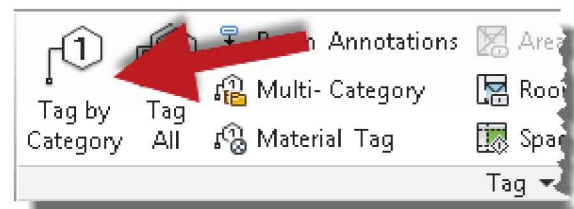

Figure 12-1.4 Annotate tab, Tag panel
10. Select **Annotate** → **Tag** → **Tag by Category** button on the *Ribbon* (Figure 12-1.4).